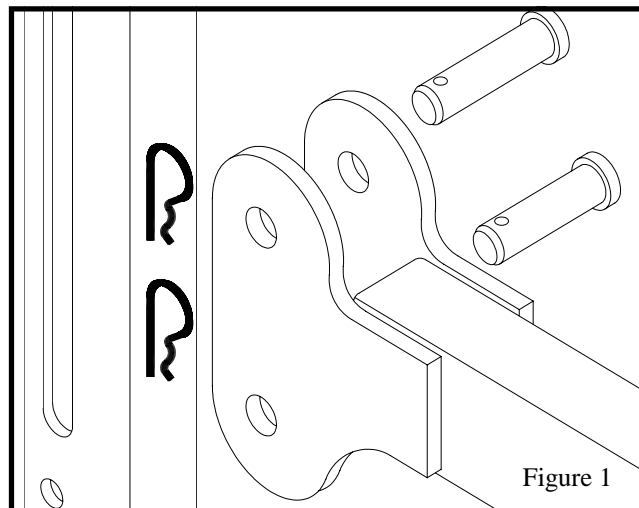

Figure 2
1. Roll the scoring table to the desired location, lift the table top all the way up and swing out the table legs on both sides. Lower the adjustable legs to rest on the floor. Lifting the table brace slightly will allow the adjustable leg to become fully engaged and stabilize the scoring table. Lower the table top on the table braces making sure that the table braces are secured into the locks on the lower surface of the table top. **(See Figure 2)**